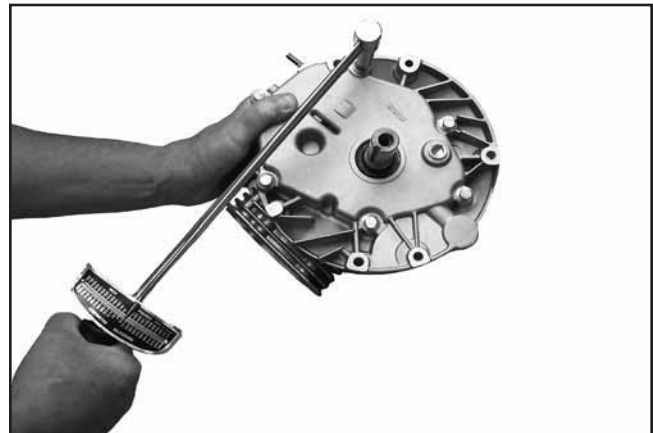

Figure 10-14. Torquing Oil Pan Screws.
7. Torque the oil pan screws to **12.3 N·m (109 in. lb.)**. See Figure 10-14.